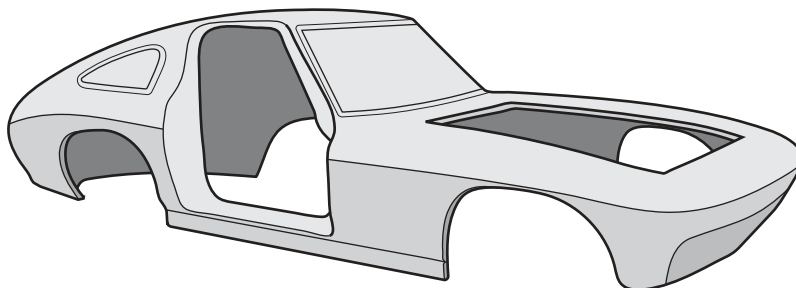

Fig. 8.1
- 8 Fig. 8.1 shows a body shell for a car made from glass reinforced plastic (GRP).